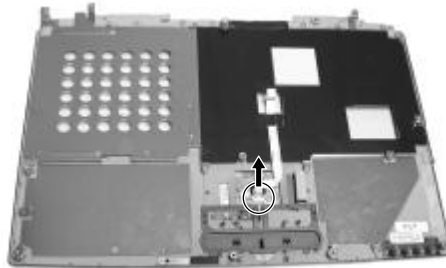

Figure 2-36 Disconnect the cable
3. Disconnect the cable. (Figure 2-36)